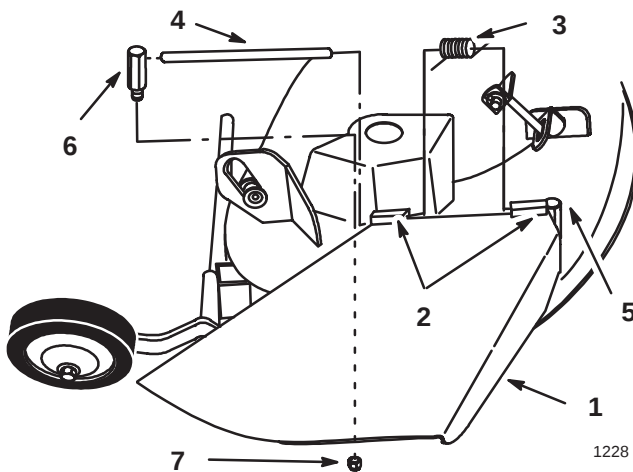

Figure 1
1. Locate items shown (Fig. 1).
4. Insert rod at front of discharge chute into short stand-off on deck. Secure rear end of rod to deck with long stand-off and nut (Fig. 1).